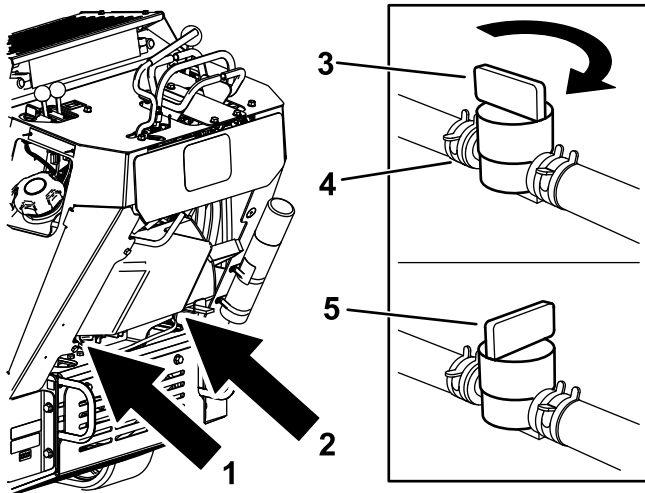

Figure 51
3. Turn the fuel-shutoff valve to the closed position (Figure 51).
4. Squeeze the ends of the hose clamp on the engine side of the valve together and slide it up the fuel line away from the valve (Figure 51).
5. Pull the fuel line off the valve (Figure 51).
3. Turn the fuel shutoff valve to the closed position (Figure 51).
5. Turn the fuel shutoff valve to the open position (Figure 51).